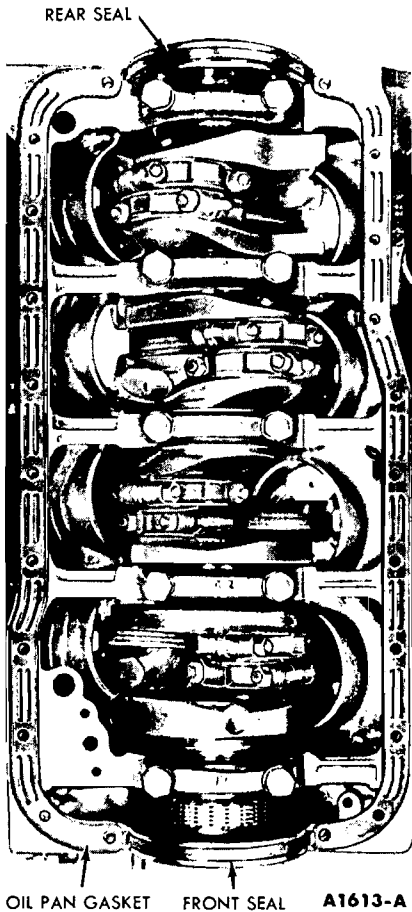

FIG. 64—Oil Pan Gaskets and Seals Installed
3. Clean the gasket surfaces of the block and oil pan. The oil pan has a two-piece gasket. Coat the block surface and the oil pan gasket surface with sealer. Position the oil pan gaskets on the cylinder block (Fig. 64).
4. Position the oil pan front seal on the cylinder front cover (Fig. 64). Be sure the tabs on the seal are over the oil pan gasket.
5. Position the oil pan rear seal on the rear main bearing cap (Fig. 64). Be sure the tabs on the seal are over the oil pan gasket.